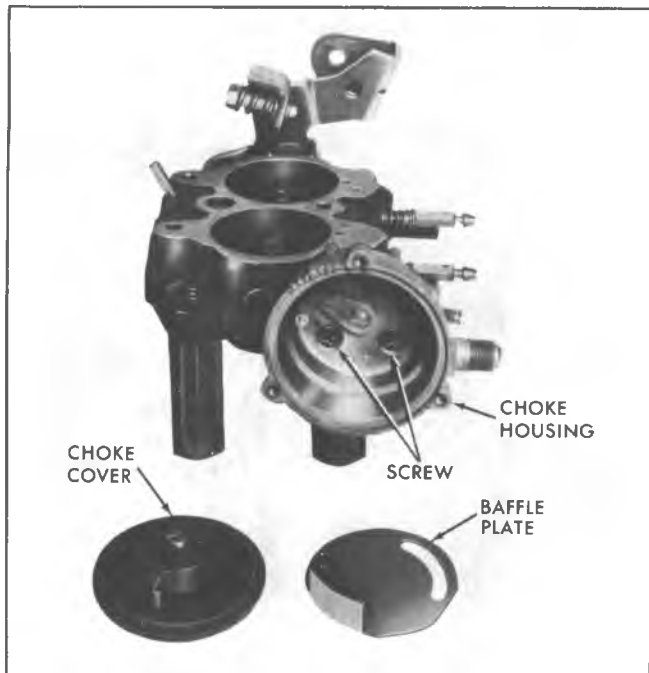

Fig. 8C-Carburetor Choke
2. Remove baffle plate from inside choke housing (Fig. 8C).
7. Position choke housing on throttle body and retain with two attaching screws. Tighten securely (Fig. 8C).